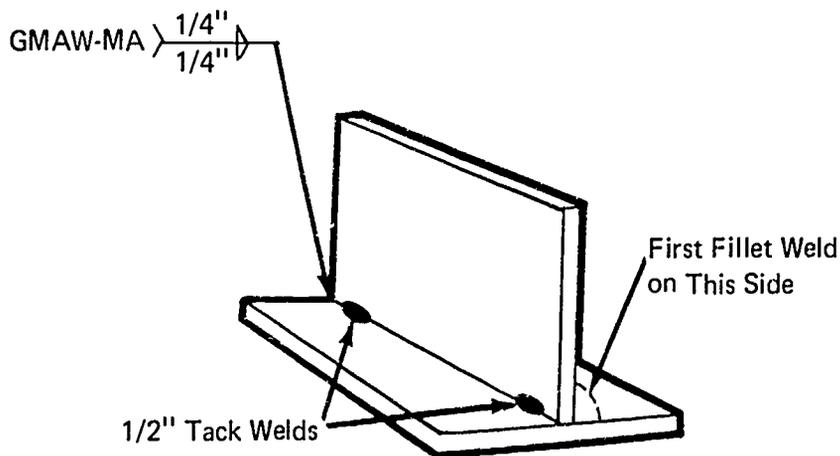

FIGURE 2
- E. Position metal to form a T-joint and make two $1/2''$ tacks (Figure 2)